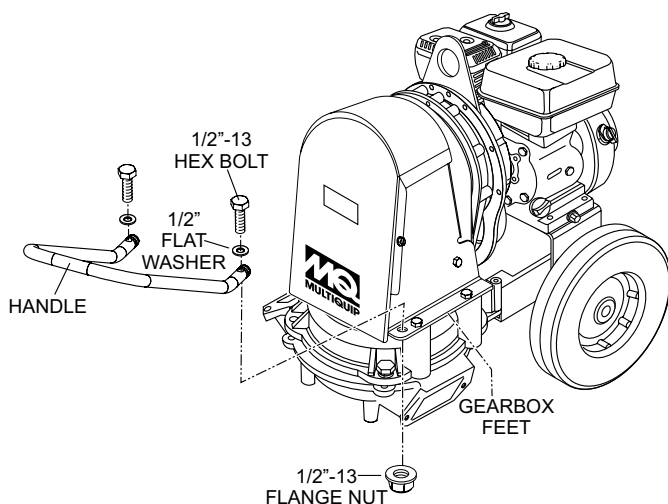

Figure 7. Handle Installation
1. Align handle mounting holes with front holes on gearbox feet as shown in Figure 7.
2. Insert 1/2"-13 hex screw (2) with 1/2" washer (2) through hole opening in handle and attach to gearbox feet.